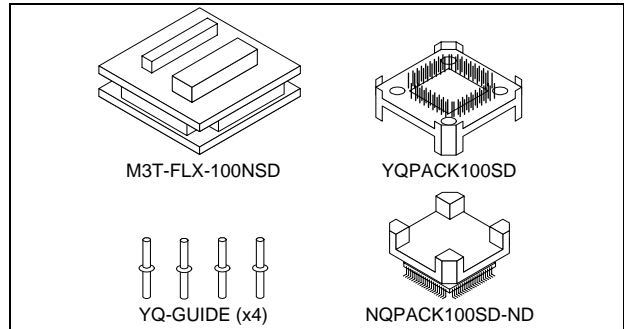

Figure 1 Package components of the M3T-FLX-100NSD
2. Package Components (See Figure 1)